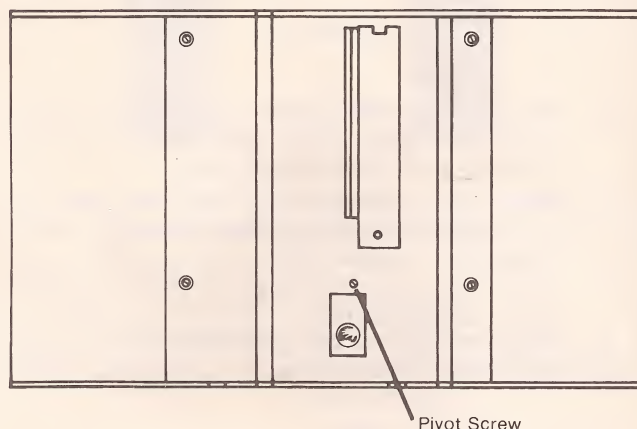

Figure 21
7. To align the blade with the Mitre Gauge Slots, loosen the five screws in the Table Top shown in **figure 21**.